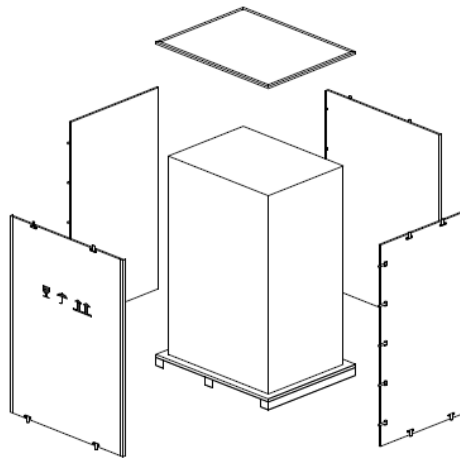

Figure 3-5 Unpack the box
Step 3 Using a one-line cone and pliers, open the top plate of the steel-edged wooden box first, and then open the four side plates separately. This is shown in Figure 3-5;